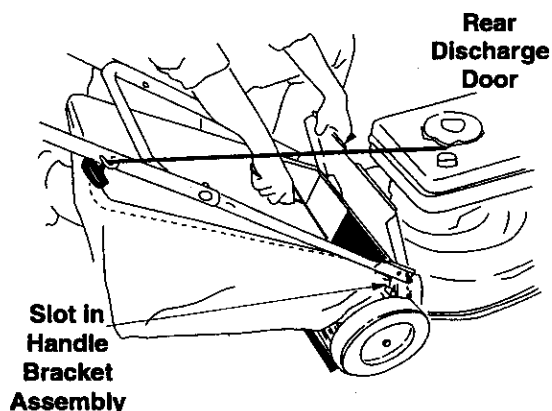

Figure 11
2. Place the hooks on the grass catcher into the slots in the handle bracket assemblies. See Figure 11. Release the rear discharge door.